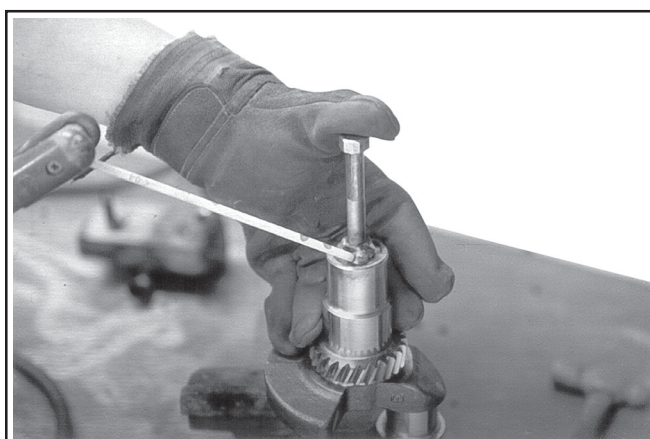

Figure 3.
4. Thread the capscrew about 1" through the nut. Using the capscrew as a handle, tack weld the 7/16-20 nut to the old insert. See Figure 3.